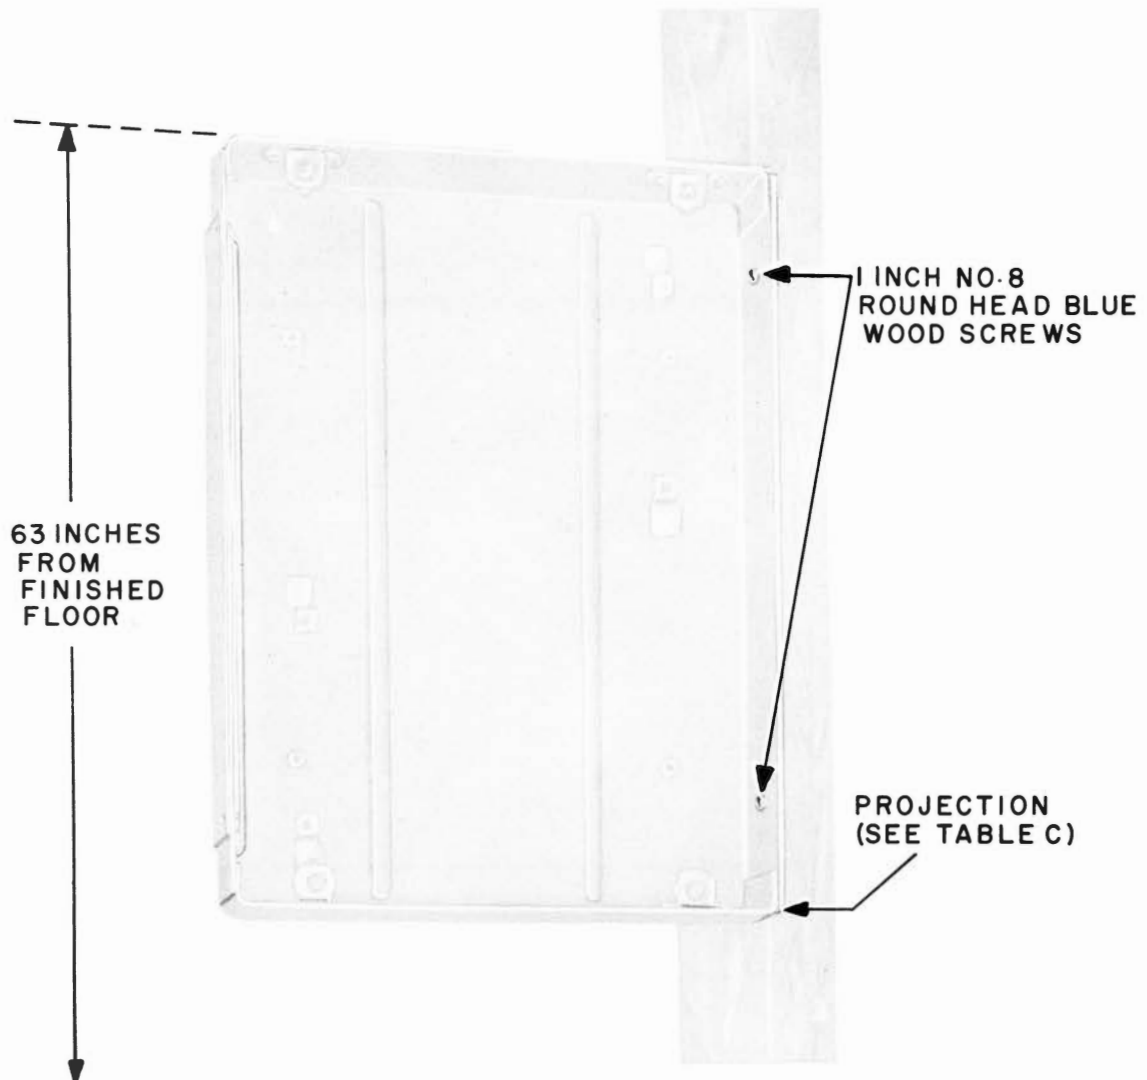

Fig. 9 — 113-Type Apparatus Box Mounted on Wall Stud
**3.02** The apparatus box may also be fastened directly to the studding with screws or nails. The box should project from the face of the studding or subwall only enough to be flush with the finished wall. (See Fig. 9 and Table C.)